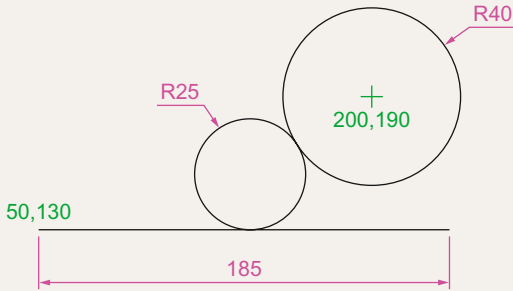

Fig. 2.32 Exercise 5
- In an acadiso.dwt screen and using the Circle and Line tools, construct the line and circle of radius 40 shown in Fig. 2.32. Then using the Ttr prompt add the circle of radius 25.